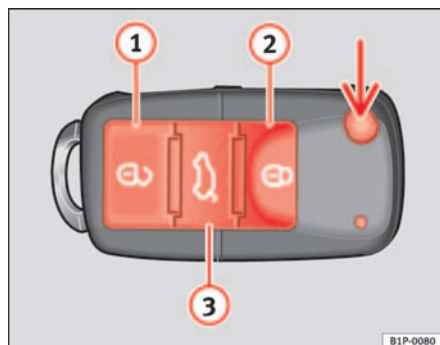

Fig. 64 Assignment of buttons on the remote control key
Using the button  $\Rightarrow$  fig. 64 (arrow) on the control, the key shaft is released.
Unlocking the vehicle  $\Rightarrow$  fig. 64 ①.
Locking the vehicle  $\Rightarrow$  fig. 64 ②.
Unlocking the tailgate. Press the button  $\Rightarrow$  fig. 64 ③ until all indicators on the vehicle briefly flash. When the unlocking button  $\Rightarrow$  fig. 64 ③ is pressed, 2 minutes remain for opening the door. Once this time has passed, it will lock once more.
Also, the battery indicator on the key  $\Rightarrow$  fig. 64, will flash.
When the button  $\Rightarrow$  fig. 64 ① is used the driver's door is unlocked, all others remain locked.
Press the button  $\Rightarrow$  fig. 64 ① twice to unlock all doors.
- Lock the vehicle using the driver side door lock with the remote control key ⇒ page 100, fig. 64.